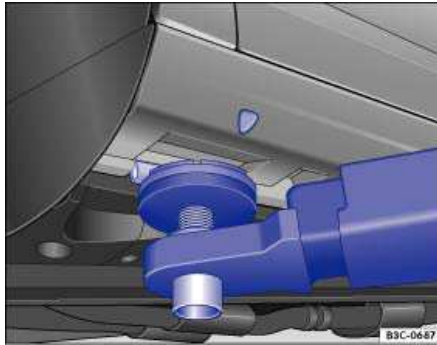
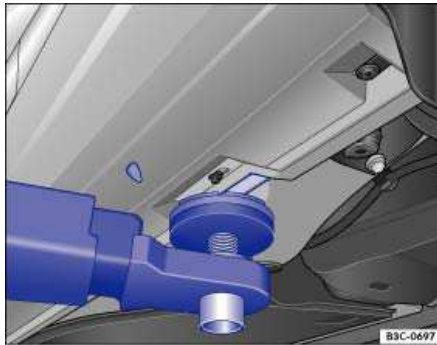

Fig. 168 Front lift point for workshop hoist or floor jack.
Fig. 169 Rear lift point for workshop hoist or floor jack.
The vehicle may only be raised at the lift points shown in illustrations ⇒ fig. 168 and ⇒ fig. 169. If the vehicle is lifted at different points, vehicle damage ⇒  and serious injuries may occur ⇒ .
- Always lift your vehicle only at the designated lift points shown in the illustrations ⇒ fig. 168 and ⇒ fig. 169. Not using the designated lift points can cause the vehicle to fall off the floor jack when heavy parts such as the engine or transmission are removed.